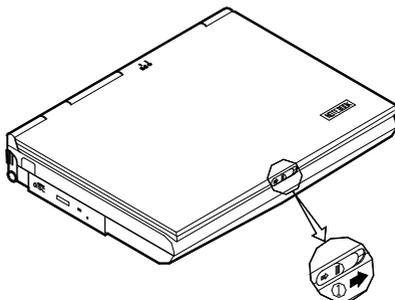

Figure 1-5
1. Move the latch to the right to release the top cover. (Figure 1-5).